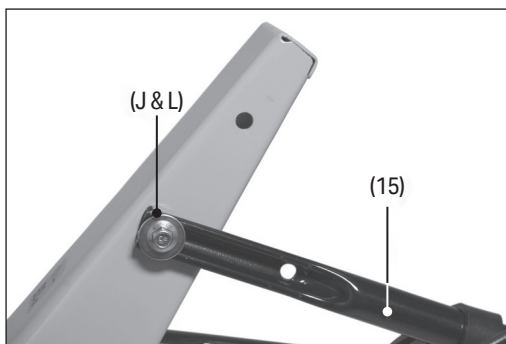

Fig. 3
- b. Pass an M8 x 30mm full-thread flange hex bolt (J) through an M8 washer (L) and the lowest hole in the left handlebar (15) (Fig. 3).